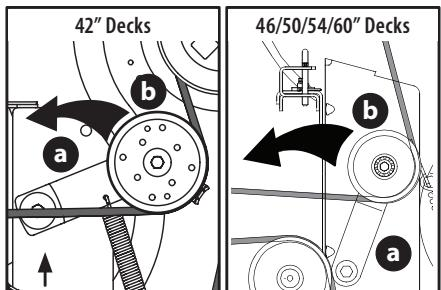

Figure 37
- a. Using the deck lift pedal and knob, raise the deck to the position that provides the most horizontal run of the belt between the deck idler pulleys and the PTO pulley on the bottom of the engine (Figure 37 on page 29).
- b. Working from the middle of the tractor, pivot the idler bracket (a) and movable idler pulley (b) rearward just far enough to lift the belt up and over the spindle pulley (Figure 37 on page 29).